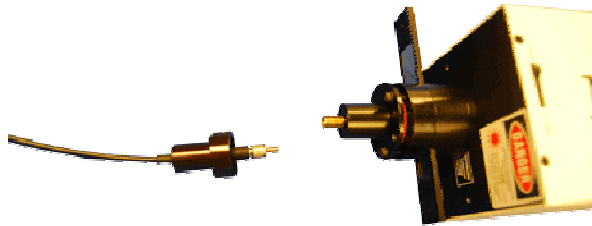

Figure 3-6: Attaching Fiber to SMA Connector
- b) Attach Fiber to SMA connector (Figure 3-6).